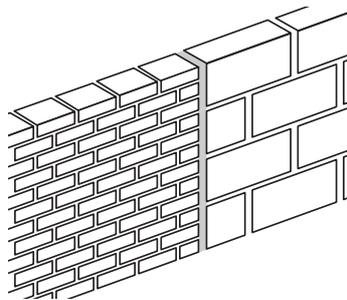

Fig. 5
- Junctions of dissimilar materials (See Figure 5)